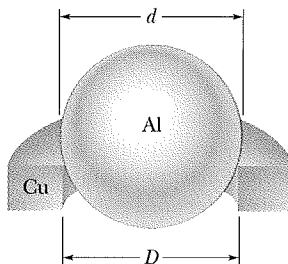

Fig. 18-35 Problem 42.
*****42** A 20.0 g copper ring at 0.000°C has an inner diameter of $D = 2.54000\text{ cm}$. An aluminum sphere at 100.0°C has a diameter of $d = 2.54508\text{ cm}$. The sphere is put on top of the ring (Fig. 18-35), and